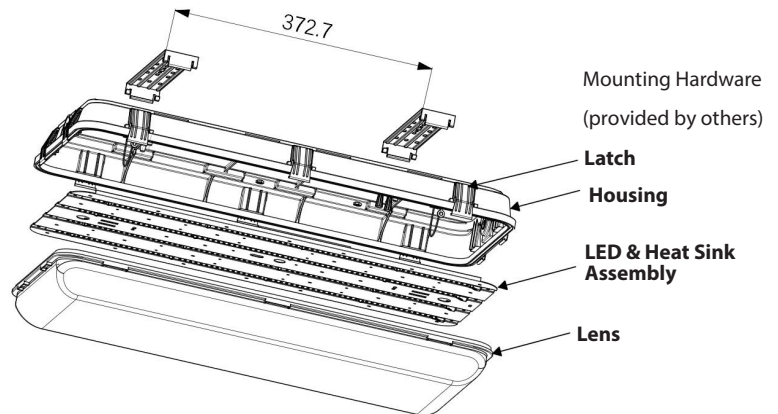
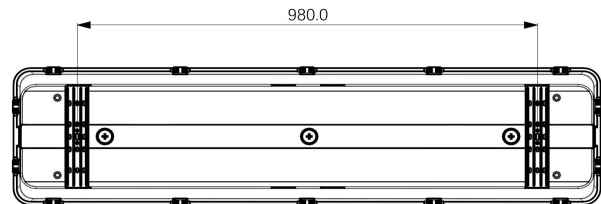

Fig. 1 - 2FT
Fig. 2 - 4FT
1. Use appropriate mounting hardware (not supplied) to secure the **Snap On Brackets** to mounting surface. Refer to recommended **Snap On Bracket** in **Fig. 1** for VPL 2FT and **Fig. 2** for VPL 4FT.
WARNING: Mount Snap On Brackets symmetrical about the center as shown in **Fig. 1** and **Fig. 2**. **Snap On Brackets** must be aligned with each other to secure **Housing**.
3. Snap **Housing** on **Snap On Brackets (2)** as shown in **Fig. 2, Page 1**. Ensure that **Housing** is secure to **Snap On Brackets (2)** onto the grooves on **Lens** as shown in **Fig. 1, Page 1**.